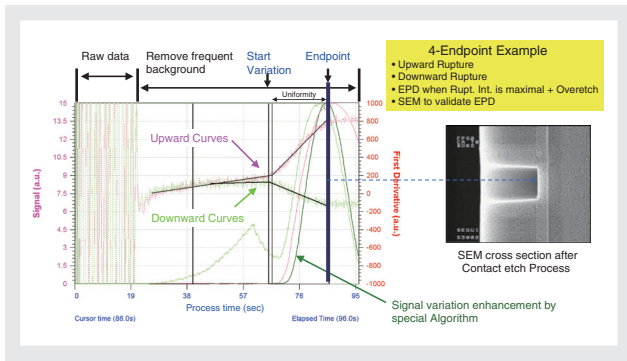

Figure 4 Sigma_P endpoint with SEM confirmation
- Scanning Electron Microscope (SEM cross section) measurement (Figure 4).